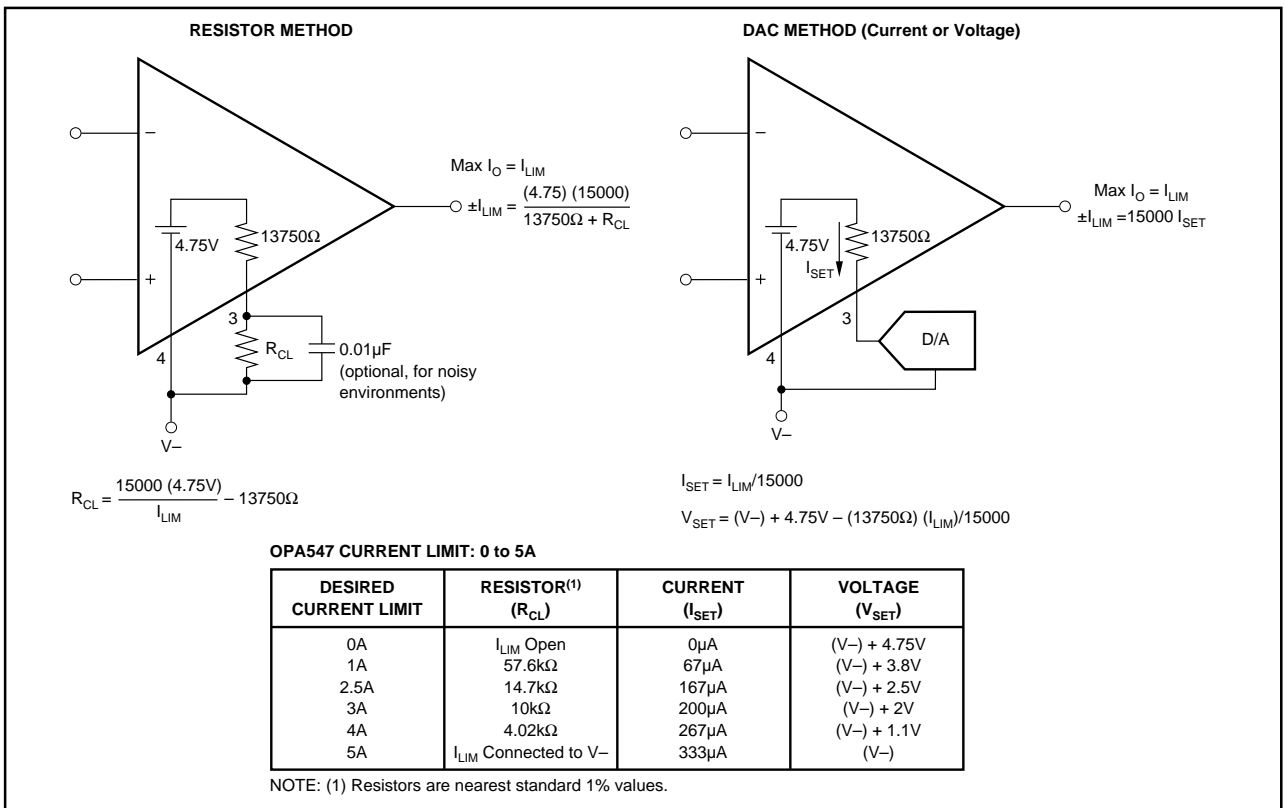

FIGURE 3. Adjustable Current Limit.
Figure 3 shows a simplified schematic of the internal circuitry used to set the current limit. Leaving the ILIM pin open programs the output current to zero, while connecting ILIM directly to V- programs the maximum output current limit, typically 5A.
NOTES: (1) Works well for  $G < 10$ . Input offset causes output current to flow between amplifiers with  $G > 10$ . Gains (resistor ratios) of the two amplifiers should be carefully matched to ensure equal current sharing. (2) As configured ( $I_{LIM}$  connected to  $V-$ ) output current limit is set to 10A (peak). Each amplifier is limited to 5A (peak). Other current limit values may be obtained, see Figure 3, "Adjustable Current Limit".